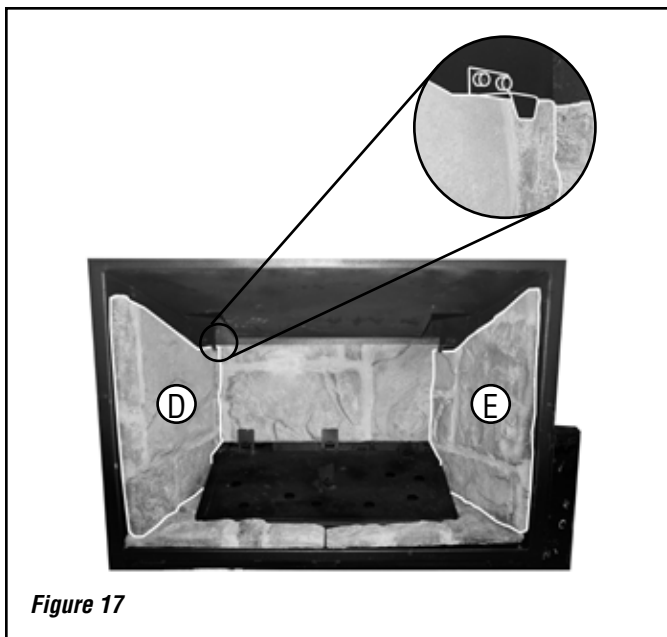

Figure 17
3. Position and slide the side panels against the rear panel. Make sure panels are behind brackets to hold them in at the top. The side panels will hold the rear brick panel against the back of the firebox. See *Figure 17*.